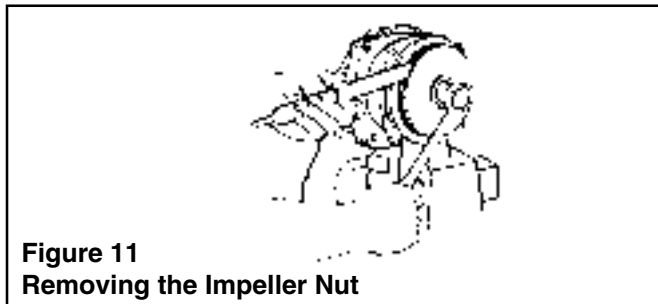

Figure 11
2. To remove the Impeller Nut, clamp the Flange in a vise and insert a large screwdriver or file (at least 10" long) into the Impeller Vanes to prevent the Impeller from turning when loosening the Impeller Nut. Use a socket wrench (3/4" for Series 9000C or 5/8" for Series 9200C and 9400C) to remove the Impeller Nut by turning it counter-clockwise (See Figure 11) [*Use 7/8" deep socket wrench to remove plastic seal nut, then 9/16" deep socket to remove metal jam nut, rubber gasket and washer.*]